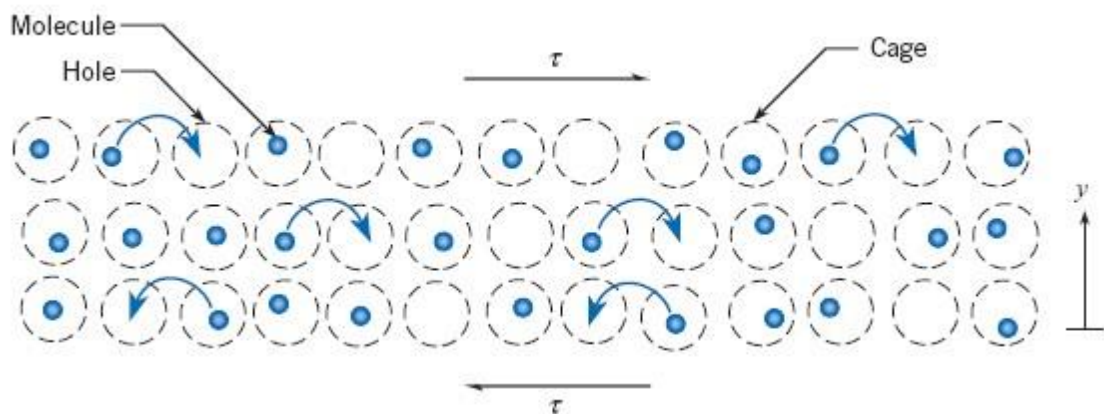

Fig. 2.2
The effect of temperature on viscosity is different for liquids and gases. The viscosity of liquids decreases as the temperature increases, whereas the viscosity of gases increases with increasing temperature. To understand the mechanisms responsible for an increase in temperature that causes a decrease in viscosity in a liquid, it is helpful to rely on an approximate theory that has been developed to explain the observed trends (1). The molecules in a liquid form a structure with "holes" where there are no molecules, as shown in Fig. 2.2. Even when the liquid is at rest, the molecules are in constant motion, but confined to cells. The cell structure is caused by attractive forces between the molecules. The cells may be thought of as energy barriers. When the liquid is subjected to a rate of strain and thus caused to move, as shown in Fig. 2.2, there is a shear stress,  $\tau$ , imposed by one layer on another in the fluid. This force/area assists a molecule in overcoming the energy barrier, and it can move into the next hole. The magnitude of these energy barriers is related to viscosity, or resistance to shear deformation. At a higher temperature the size